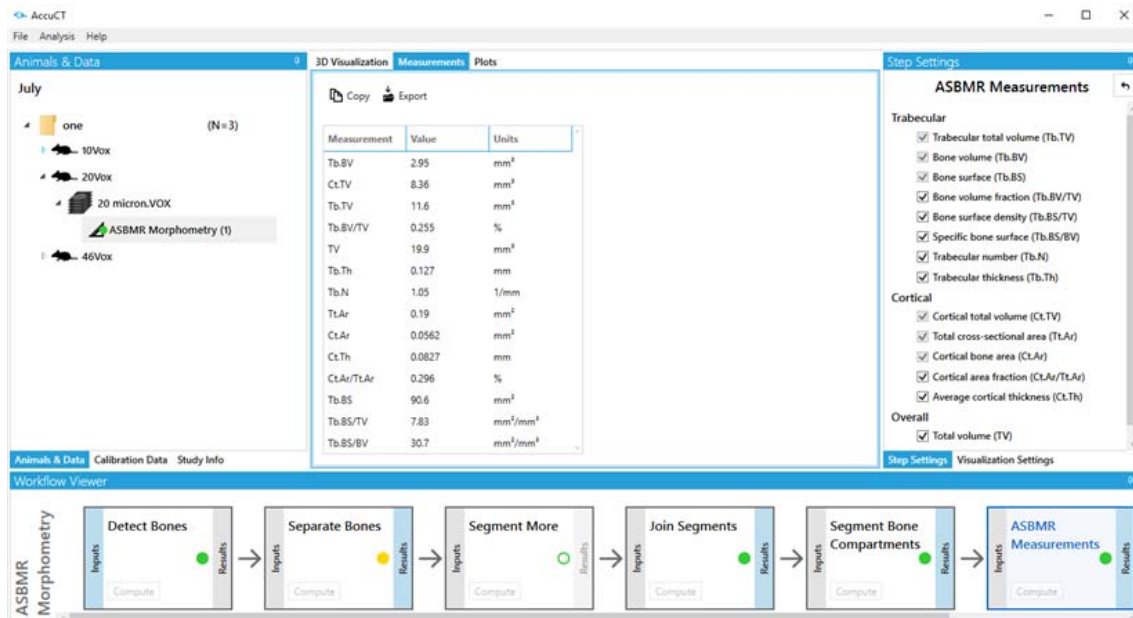

Figure 50. ASBMR Measurement Workflow Results
- Click the **Compute** button in the ASBMR Measurements step box on the Workflow Viewer Tab. The results of the ASBMR Morphometry Workflow display on the AccuCT Main Window. The Measurements Tab displays a table with the ASBMR measurement results. See Figure 50.